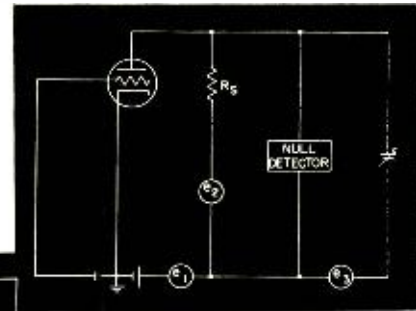

Fig. 2. Simplified bridge circuit for measuring  $R_p$  of a vacuum tube.
Upon examining Eq. (7), the expression for  $R_p$ , it becomes apparent that the increments of alternating voltage and current involved correspond to those for  $h_{11}$  of the transistor. Thus,  $v_e$ ,  $i_e$ , and  $v_c$  correspond to  $v_p$ ,  $i_p$ , and  $v_g$ , respectively, if the transistor is reversed when it is inserted into the bridge so that the emitter side is inserted into the plate terminal of the bridge and the collector is inserted into the grid terminal. The simplified bridge circuit for measuring  $R_p$  and the associated circuit for measuring  $h_{11}$  are shown in Figs. 2 and 3.